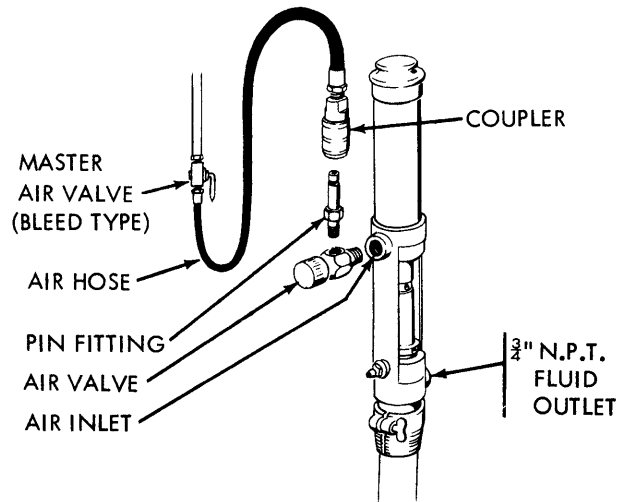

Fig. 1
(1) Apply thread sealer sparingly to male threads of the coupler pin fitting and air valve, and install in the pump air inlet. Connect the $\frac{1}{4}$ NPT (F) air coupler to an air hose. Connect the other end of hose to a bleed type master air valve. See Fig. 1.